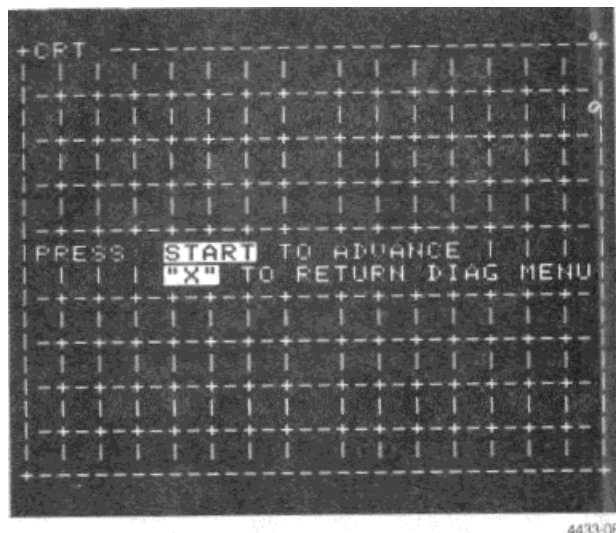

Figure 5-5. 318 CRT test cross-hatch pattern.
Refer to Figures 5-5, 5-6, 5-7, and 5-8.
- Cross-hatch pattern (Figure 5-5). Used to adjust the CRT circuit.